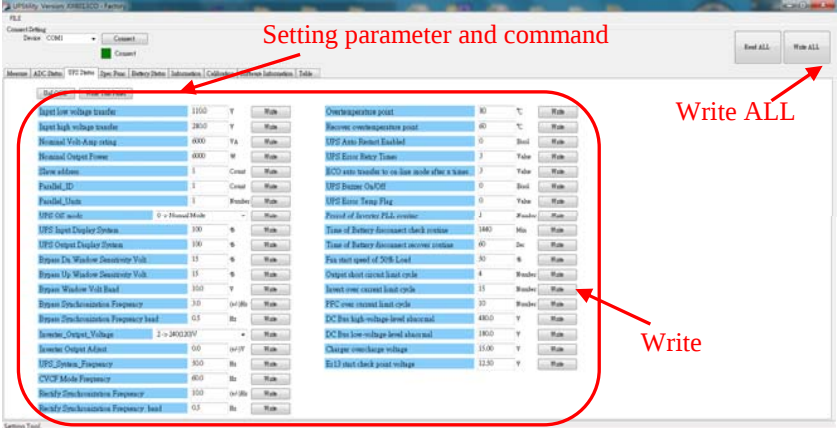

Fig4.5-1
4.5.1.1 Please connect the UPS as shown in Fig 4.5-1.
4.5.1.3 Connect the USB cable to the UPS and computer, then execute MSII Setting tool program. The setting screen of the program shall be as Fig 4.5-1. (MAKE SURE THAT THE PROGRAM IS INSTALLED COMPLETELY, BEFORE THIS SETTING PROGRAM IS IN USE.)
4.5.1.4 Enter the desired parameter to the “Setting parameter and command”, of Fig 4.5-1. then click “write” icon.